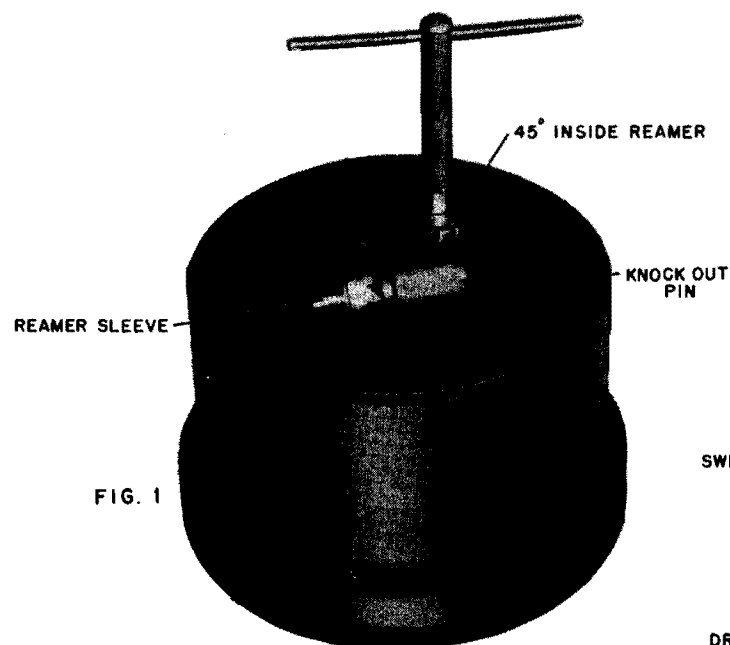

FIG. 1
- d. Use 45° cutter as in Fig. 1 to narrow seat to width shown on Plate 2-3; turn by hand, not by motor.